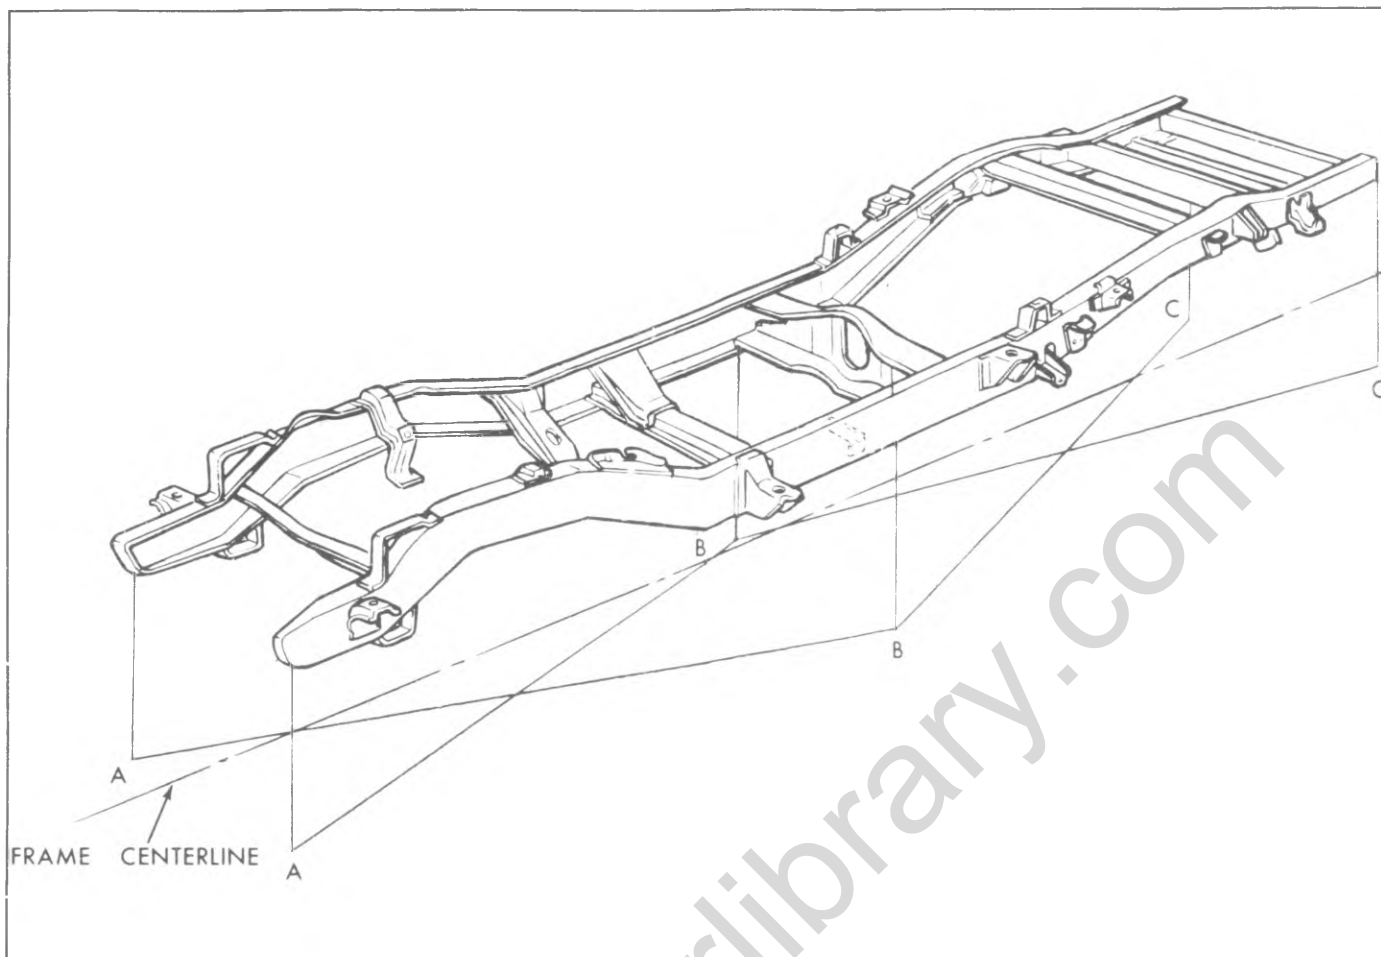

Fig. 2A-1--Frame Horizontal Checking--Typical
Tramming Sequence (Fig. 2A-1)
3. If a tram bar is used, for horizontal alignment "X" - check from opposite and alternate reference points AA, BB and CC, as illustrated by the lines in Figure 2A-1. Error will result if a tram bar is not level and centered at the reference points.
4. Obtain vertical dimensions and compare the differences between these dimensions with the dimensions as shown in figure 2A-3 or 2A-4.